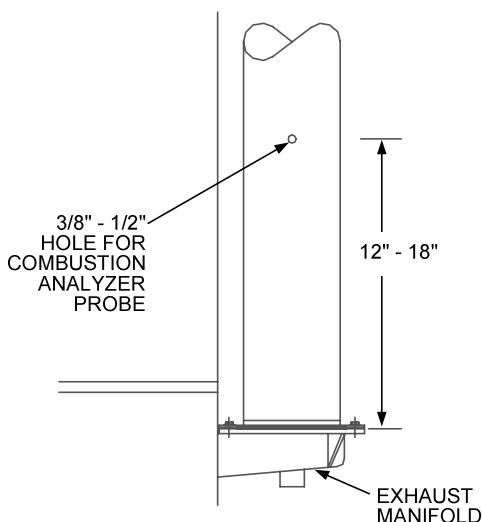

Figure 4.2
1. If the unit has been installed using the recommended AL29-4C vent, there will be a 3/8" hole, 18" to 24" above the exhaust manifold. The outer vent section, that covers vent section connections must be loosened and moved to uncover the hole (see Fig. 4.2).